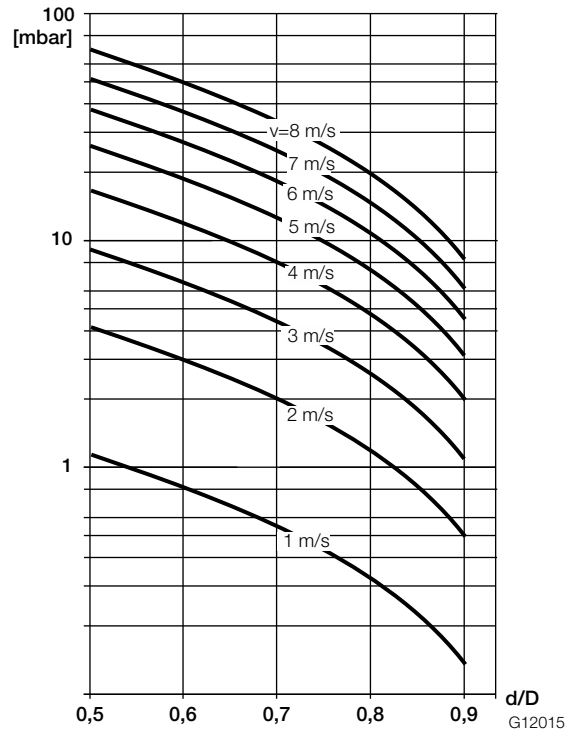

Fig. 17: Nomograph for pressure drop calculations for flange transition piece with  $\alpha/2 = 8^\circ$
2. Determine the flow velocity based on the flow range nomograph (Fig. 17).
3. Read the pressure drop on the Y-axis in Fig. 17.